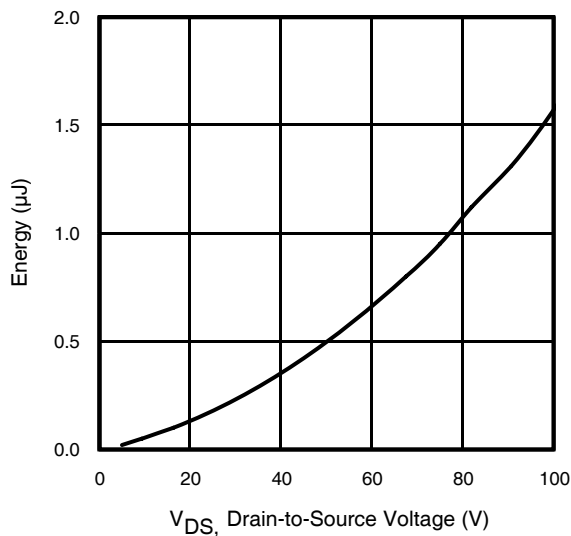

Fig 11. Typical C_{OSS} Stored Energy
| C _{oss} eff. (ER) | Effective Output Capacitance (Energy Related) | — | 330 | — | | V _{GS} = 0V, V _{DS} = 0V to 80V ⑥, See Fig. 11 |